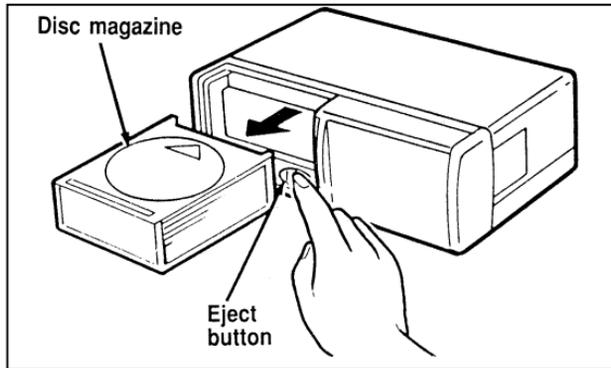

Figure 2
2. Push EJECT button to eject the disc "magazine" (which holds 10 discs) (Figure 2).